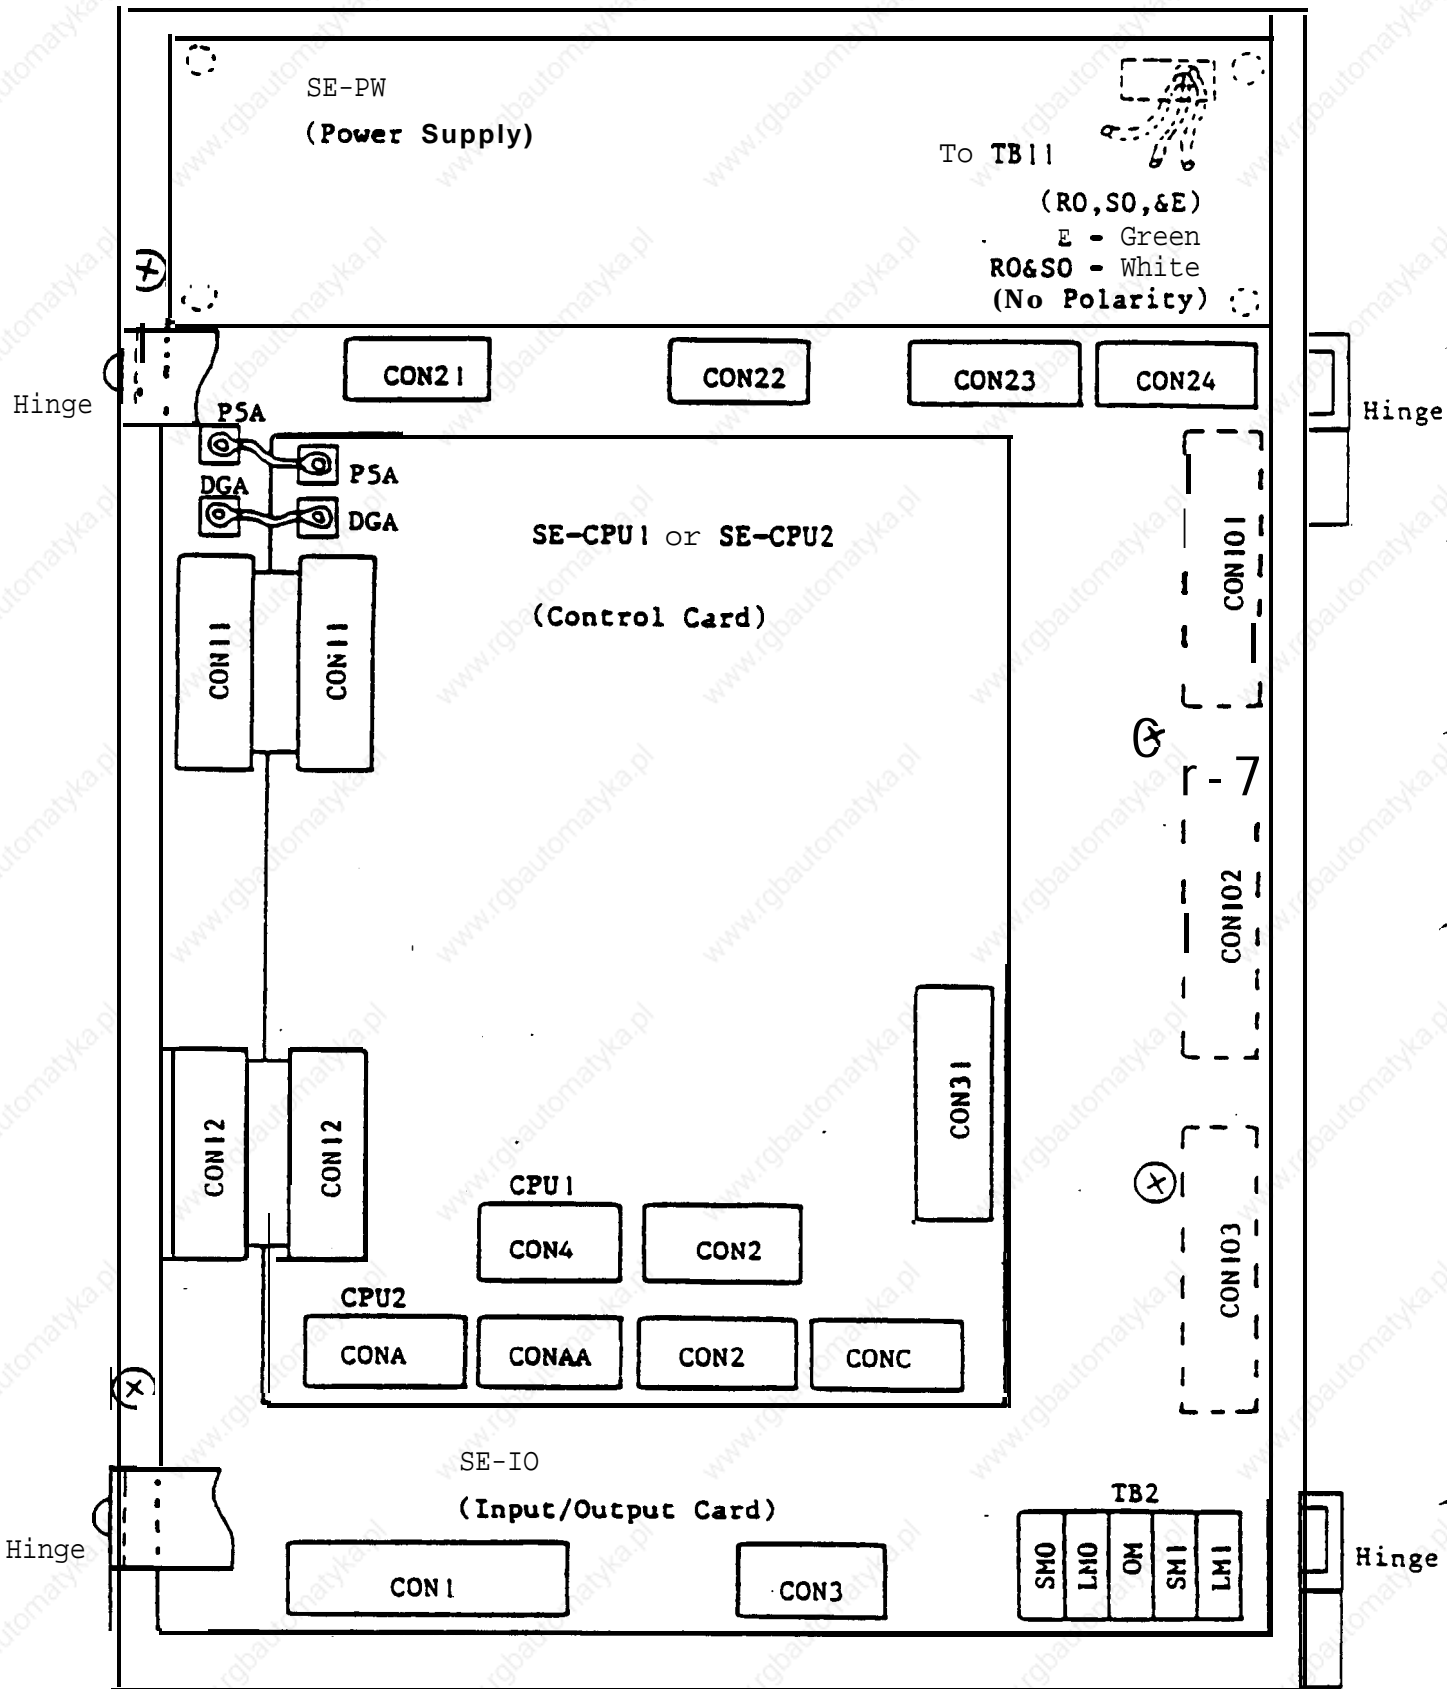

Figure 2
2. Removal of SE-CPU card. (Refer to Fig. 2)
(2) Remove the card while **compressing the card installation spacer claws**.
3. Removal of **SE-IO** card. (Refer to Fig. 2)
4. Remove the SE-PW power **supply**. (Refer to Fig. 2)